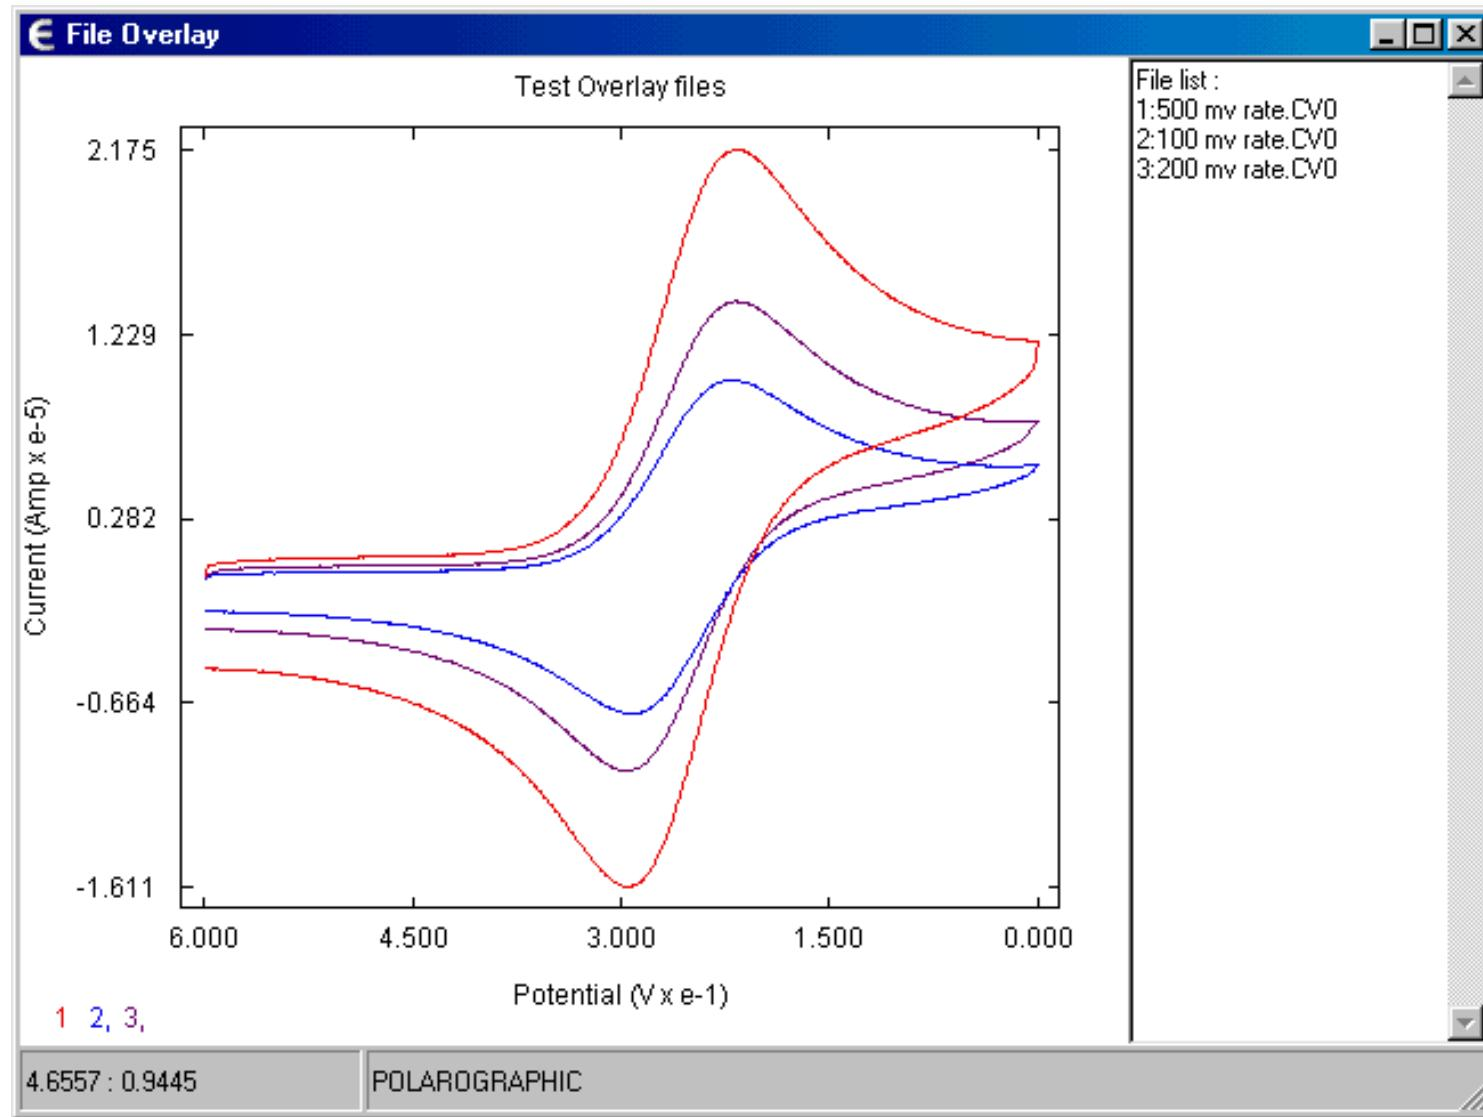

Figure 10. Overlayed cyclic voltammograms.
11. The scaling of the axes is determined by the **Base File**. Therefore, when comparing voltammograms with the same potential range, the voltammogram with the highest current should be selected as the **Base File**. In this example, the cyclic voltammogram run at a scan rate of 500 mV/s should be the **Base File**. Select the name of this data file, and click **New**. This data file is now displayed on the axis set (which remains in the background). The other two data files (cyclic voltammograms run at 100 and 200 mV/s) should now be selected (using standard Windows functions). Once selected, click **Add** to display these data sets on the axis set. Click **Exit** to remove the **Setup** dialog box. The overlaid data sets can now be viewed (Figure 10).